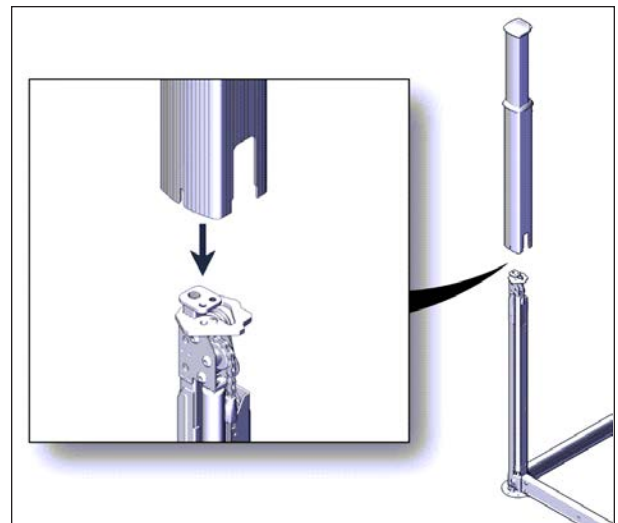

FIGURE 58: SLEEVE INSTALLATION
19. Slide the sleeves over all four jacks see Figure 58.